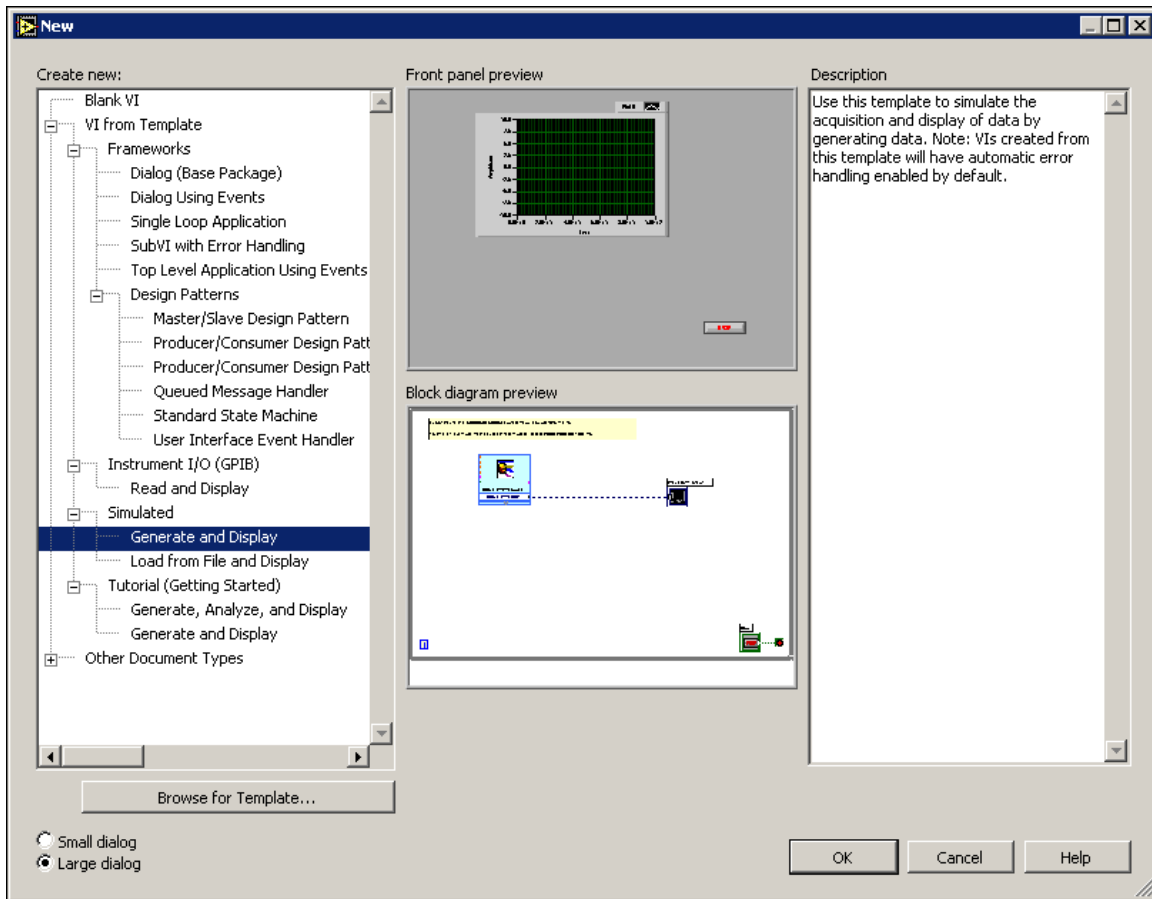

Figure 2.19
3. Select VI from **Template**»**Tutorial (Getting Started)**»**Generate and Display** in the **Create new** list. This template VI generates and displays a signal. Notice that previews of the template VI appear in the **Front panel preview** and the **Block diagram preview** sections. The Figure 2.19 shows the **New** dialog box and the **Generate and Display** template VI.